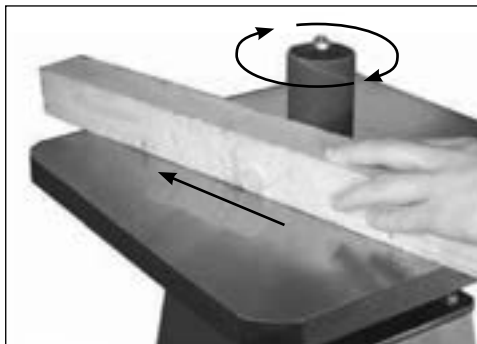

Fig. 12
7.4 Using the Bobbin Sander (Fig.12)